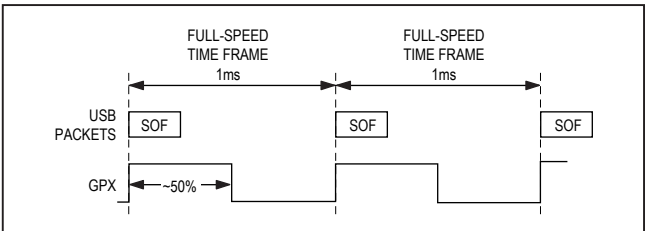

Figure 12. GPX Output in SOF Mode
- **SOF:** A square wave with a positive edge that indicates the USB start-of-frame (Figure 12).